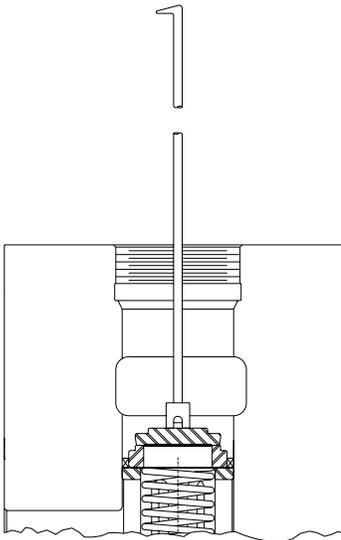

Figure 6
4. Before removing spring, observe amount of preload. Spring should extend about 1/8" to 3/16" above the top of the cage. It is not recommended that you stretch a spring to secure the correct preload as this causes physical damage to the spring. This should be done only on these cases where a new spring is not available. Remove the spring with hook. (Figure 6, page 36).
6. Using magnet or hook, remove valve disc. (Figure 6, page 36).